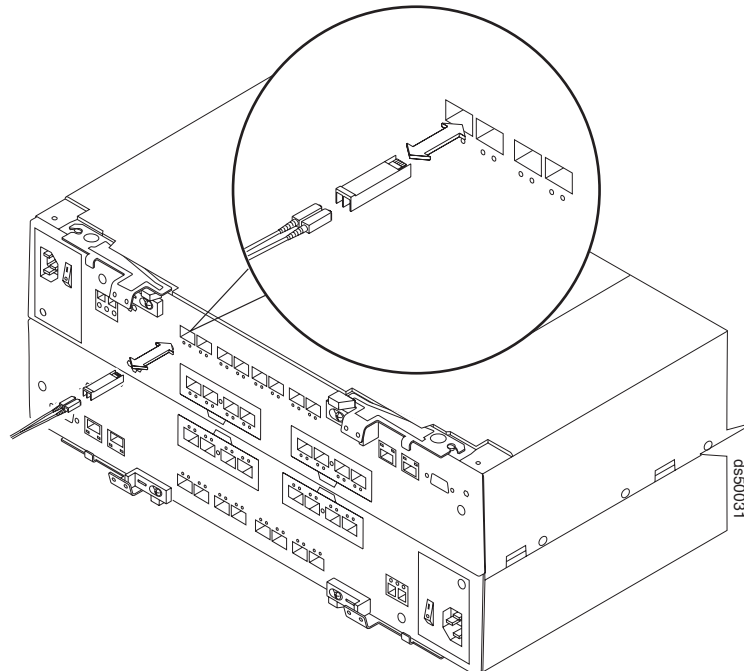

Figure 20. Replacing an SFP module
4. Insert the SFP module into the fibre channel port until it clicks into place. See Figure 20.
Note: The alignment of the fibre channel ports on controller A are opposite those of controller B. Before inserting an SFP module into a port, verify that the SFP module is rotated correctly to match the alignment of the port on the RAID controller. Do not force-fit. For fibre channel ports in controller A, SFPs should be inserted with the exposed printed circuit facing up (as shown in Figure 20). For fibre channel ports in controller B, SFPs should be inserted with the exposed printed circuit facing down.